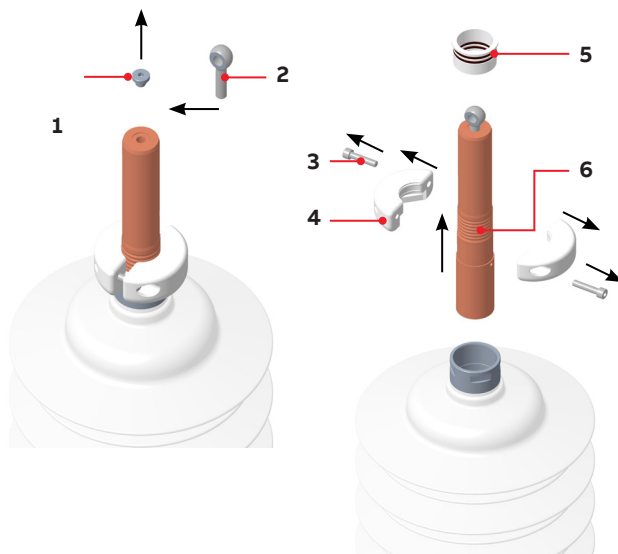

Fig.6
- ▶ CLAMP HALVE MUST BE PROPERLY INSTALLED AND CLAMP SCREWS CORRECTLY FASTENED (SEE FIG. 6)
Note Fig. 6
5.5. Dismounting of the cable bolt (A) or conductor rod (C)
Depending on the order, the bushing can be delivered with a cable bolt or a dismantlable conductor rod. Before the bushing can be installed on the transformer, it is necessary to solder a conductor wire in the cable bolt or conductor rod. In order to be able to solder the conductor rope, the cable bolt or conductor rod must be dismantled and processed. Bushings with a conductor rod that oil-side has a flat terminal, need not be processed. In order to remove the cable bolt or conductor rod, it is recommended that the vent screw (1) is replaced with a lifting eye (2). A rope is attached to the eyebolt preventing the slipping out of the cable bolt or conductor rod during the dismantling. As shown in Fig. 6, first, the clamp screw (3) is loosened and the clamp halves (4) are removed to the side. The cable bolt or conductor rod can be fully pulled out with the sealing sleeve from the central tube by loosening the clamp halves.